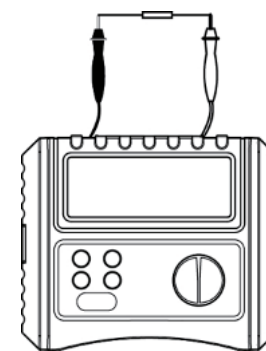

Figure 3
VIII. Testing for Continuity (See Figure 3)
- (1) Discharge totally the tested circuits and keep them completely separated from the power supply before test.
- (2) Insert red lead or specific TEST-marked test lead into red input terminal and black test lead to black terminal.
- (3) Connect red and black alligators or test probes to the circuit under test.
- (4) Turn the rotary switch to Ω position, then press TEST button to begin. Refer to Figure 3 for details.